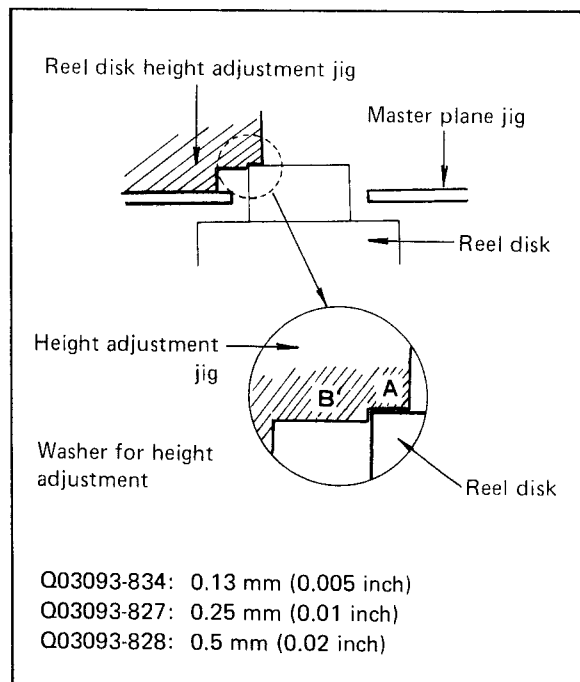

Fig. 5-6 Reel disk height adjustment
3. Place the height adjustment jig on the master plane jig, check the reel disk height to be lower than "A" area and higher than "B" area as shown in Fig. 5-6.